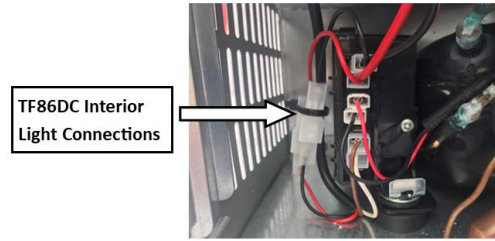

Figure 6.2.2: TF86 Interior Light Connection
1. Locate interior light connections (white connectors). See *Figure 6.2.2: TF86DC Interior Light Connection* below.